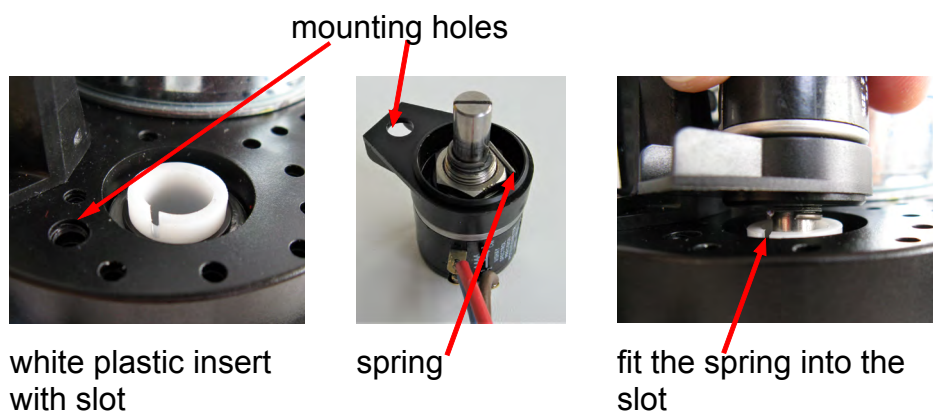

Fig. 5: Aligning the potentiometer
- Fit the potentiometer spring into the slot in the white plastic insert, so that the potentiometer sits flush on the actuator and the potentiometer mounting hole is aligned with the mounting hole in the actuator (see Fig. 5, below.).